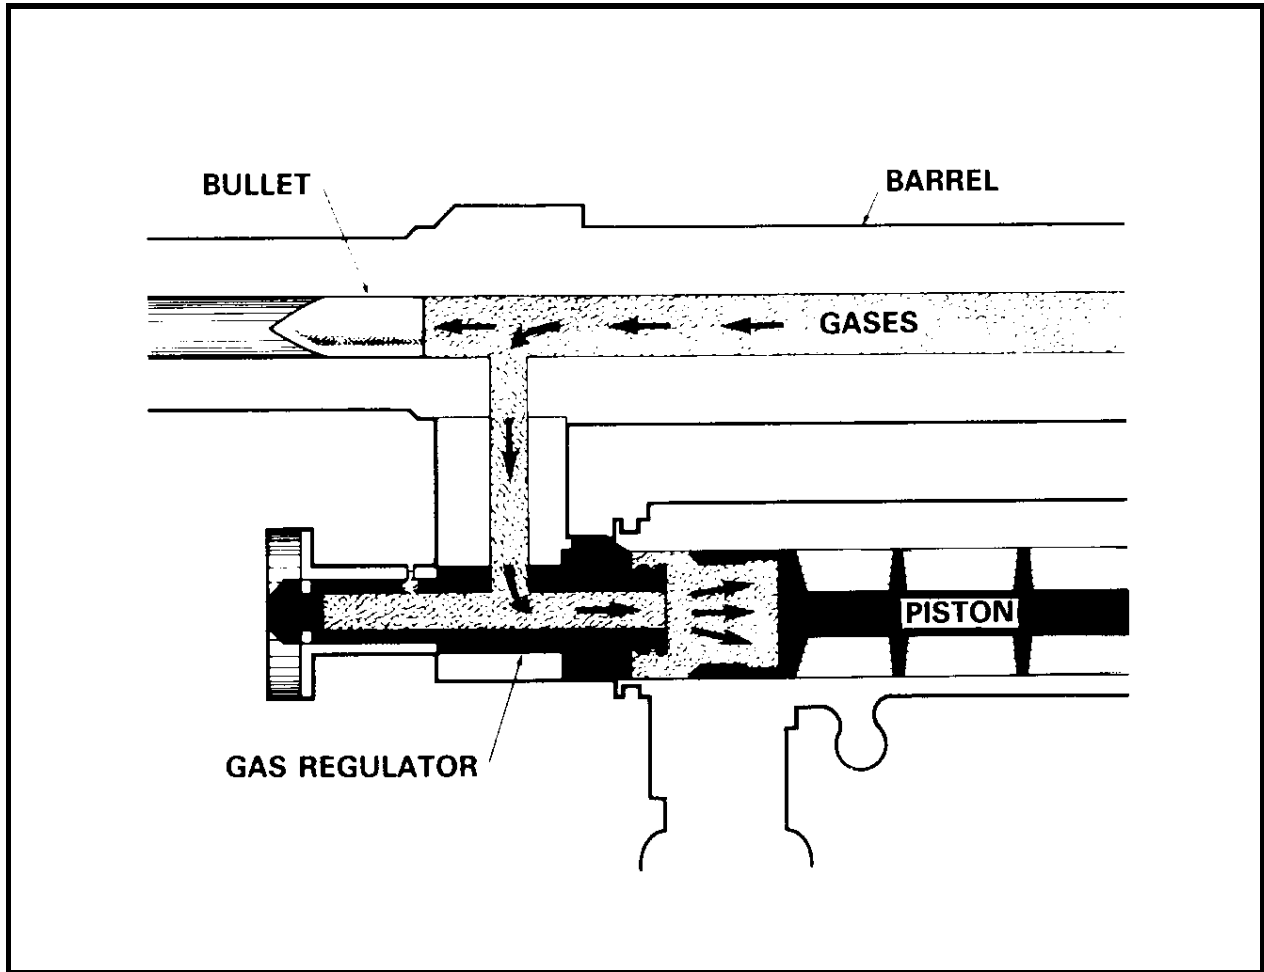

Figure 2-62 Flow of the Gas
- a. When the round is fired, some of the gases pass through the gas vent into the gas cylinder, strike the head of the piston rod, and drive it to the rear (see Figure 2-62).